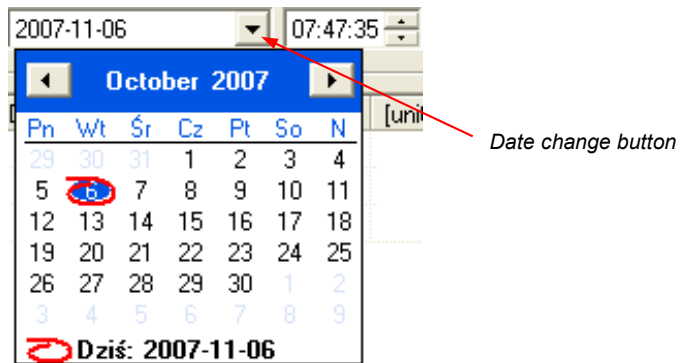

Figure 4.2. Changing the "From date"
- 1) In order to change "From date", click onto the arrow on right side of the date (**Figure 4.2**). The calendar window will open: